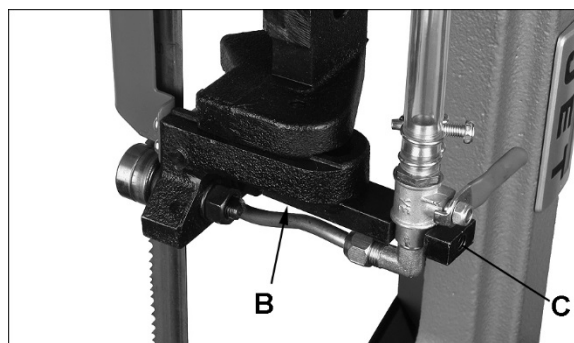

Figure 8-3: Upper Blade Guide Rotation (712DV only)
4. Repeat above step for top blade guide bracket. NOTE: Loosen set screw (C, Figure 8-3) and slide coolant valve assembly out of slot to